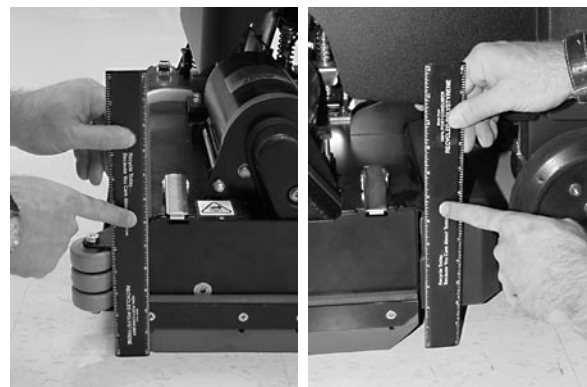

FIG. 22
3. Measure the distance from top edge of scrub head to floor at front and rear. The dimension at front of scrub head should be 6.35 mm (.25 in) lower than the rear (Figure 22).